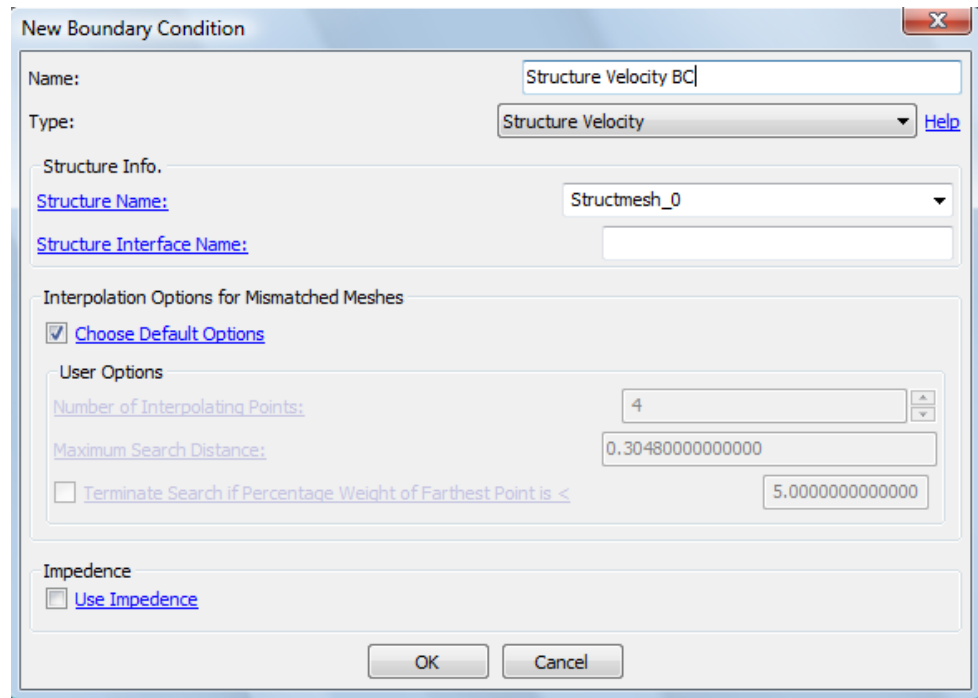

Figure A.17 Edit structure velocity boundary condition window.
- Select **Structure Velocity** from the drop-down menu for 'Type'. The window in Figure A.17 will appear.